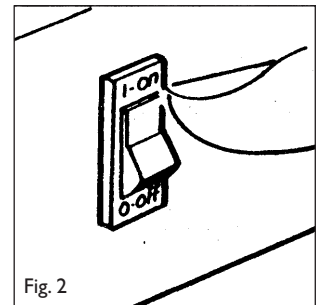

Fig. 2
- Turn the fan switch to position I and check that the fan starts running correctly. (Fig. 2)